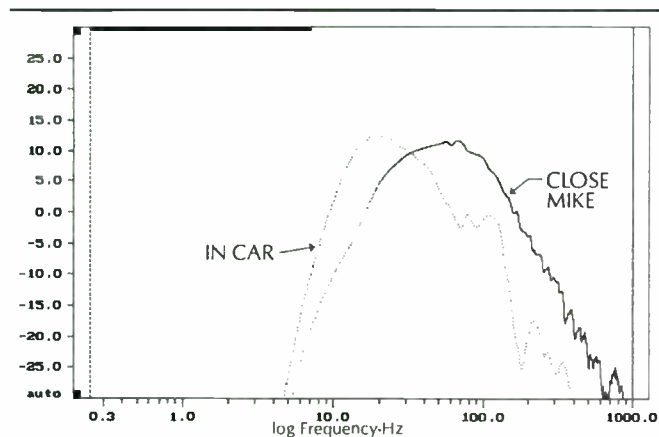
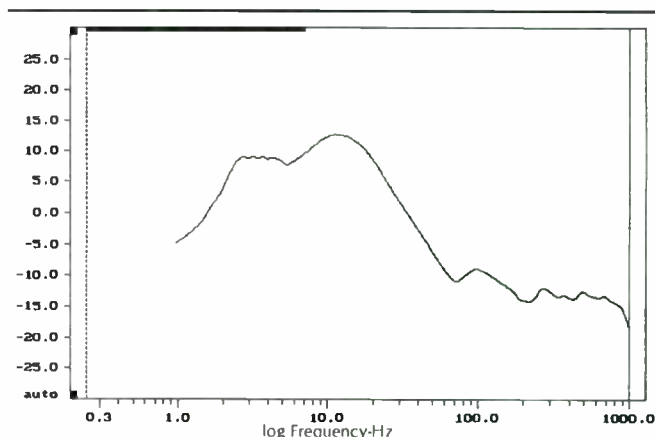

FIGURE 1: Close-mike 10" woofer versus in-car (dot).
FIGURE 2: Bass transfer function of Corvette.
7. $V_B = V_{AS} / (((Q'_T * Q'_T) / (Q_T * Q_T)) - 1) = 60\text{ ltr} = 2.1\text{ft}^3$. This volume will be made up by the sum of the two sealed chambers' volumes. See Fig. 1.
Figure 1 shows the close-mike lab response of a Bag End ELF 10" subwoofer and the response of the woofer in the Corvette. Figure 2 is the in-car response equalized to the lab response. While some activity exists between 80 and 160Hz, the basic shape is a 12dB/octave rise beginning at 70Hz. A system such as the ELF, which has a half-power point of 25Hz near field, can deliver response to 12Hz in the car. Actually, any good pair of 6 x 9 or larger